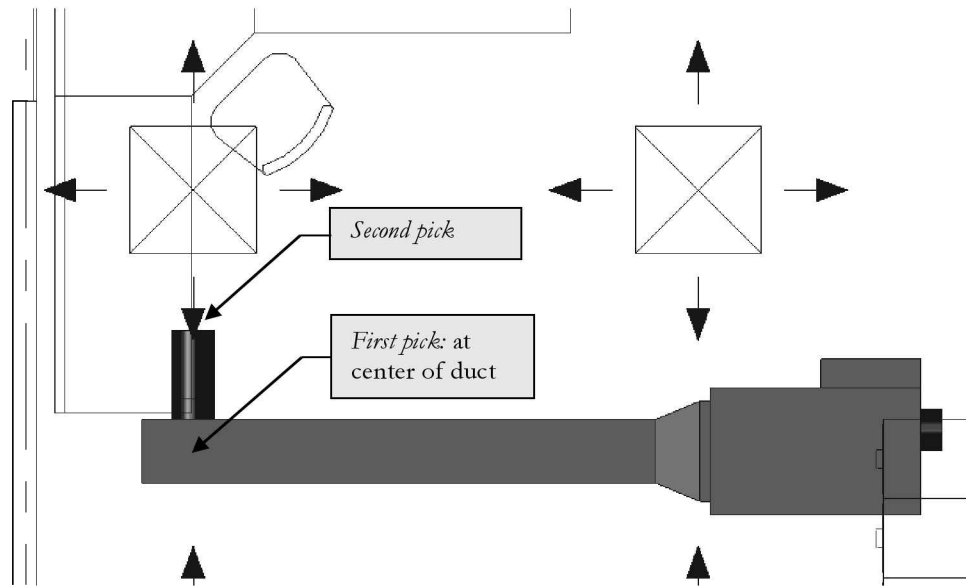

FIGURE 13-4.9 Drawing a branch duct
33. Click the two points shown in Figure 13-4.9.